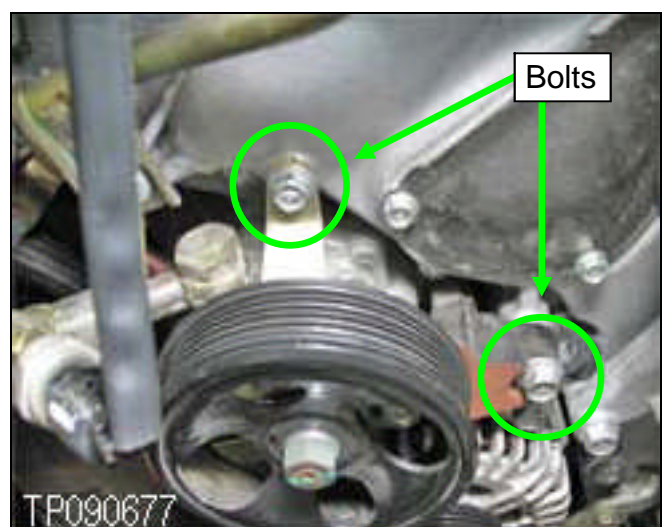

Figure 2
7. Loosen the two front bolts securing the power steering pump bracket to the engine block. See Figure 2.